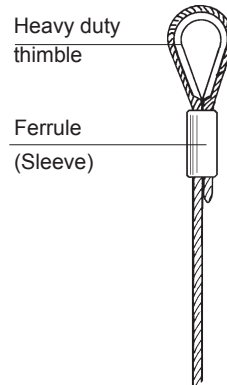

Figure 16
- Install heavy duty thimble with a minimum of three (3) J-Type (Fist Grip) Clamps (Fig. 16).